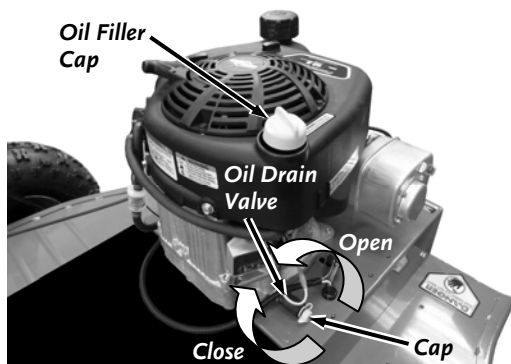

Figure 27
1. Remove the Oil Filler Cap and position a suitable oil drain container under the machine near the Oil Drain Valve on the side of the Engine (**Figure 27**).